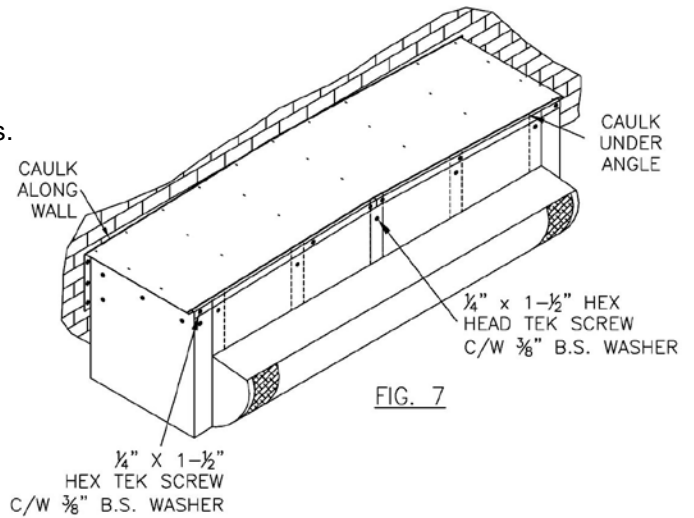

FIG. 7
- ii. Insert Tek Screws and 3/8" washer into holes (Fig. 7).